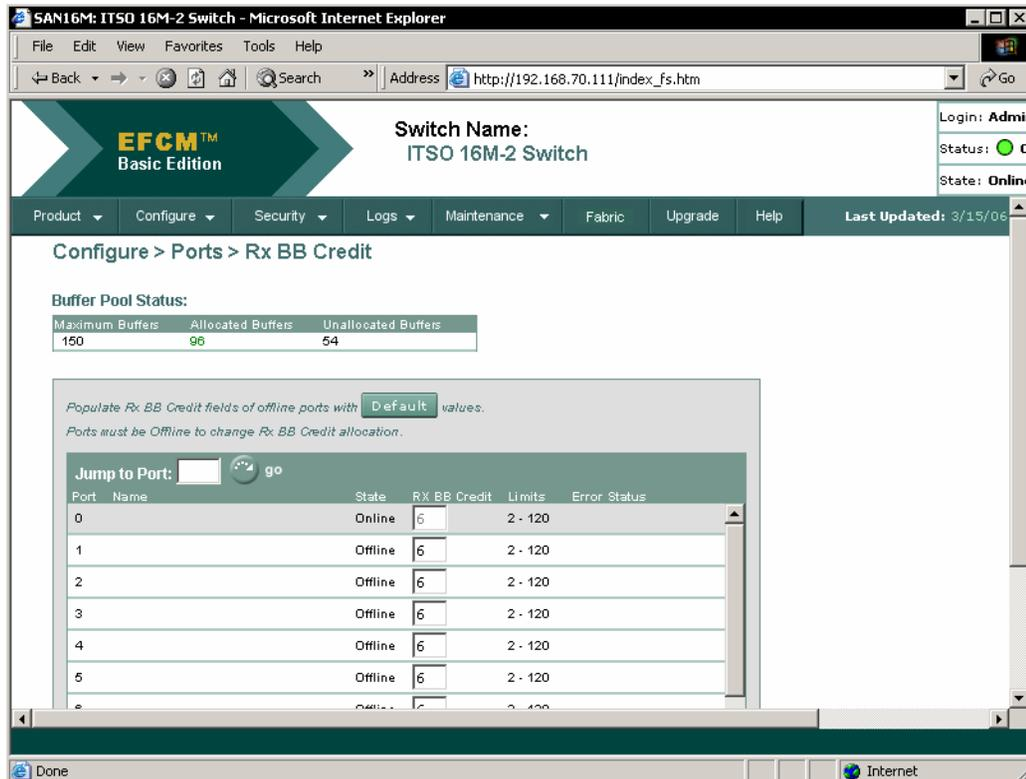

Figure 36 Ports - BB\_Credit setting
2. From the EFCM Basic interface click **Configure**, then select **Ports** and **RX BB\_Credit** to display the RX BB\_Credit view shown in Figure 36 on page 33.